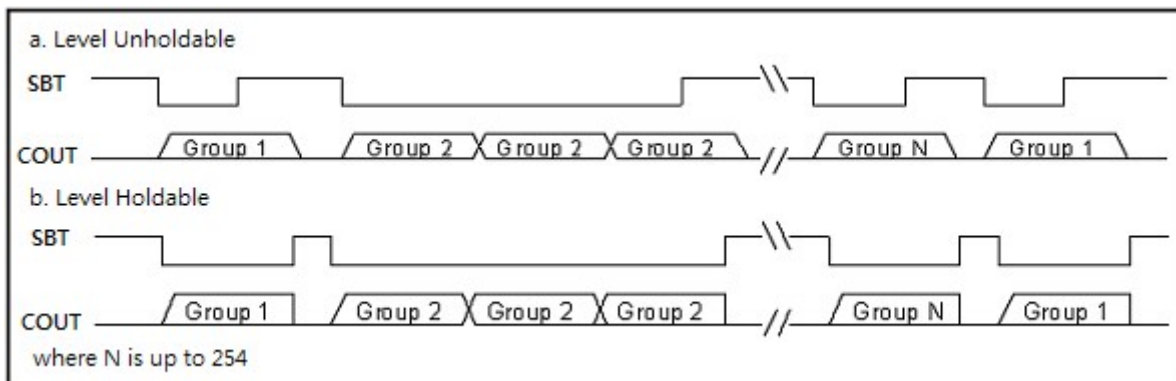

Fig. 3 SBT sequential trigger with Level Holdable and Unholdable
**SEQ** : Sequential Play (See Fig. 3 and 6).